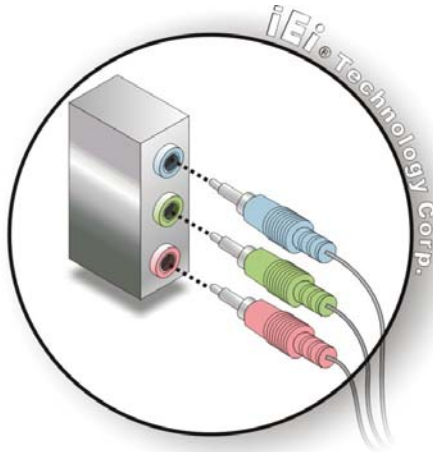

Figure 5-21: Audio Connectors
Step 6: Insert audio phone jack plugs. Insert audio phone jack plugs into the audio phone jacks on the external peripheral interface. See **Figure 5-21**.